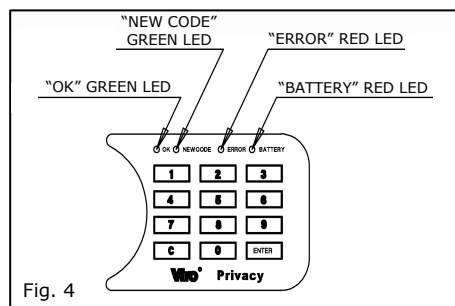

Fig. 4
**ATTENTION:** Use only AA LR6 type 1,5V alkaline batteries. All 4 batteries of the same safe must be replaced at once. Do not use together new and old batteries or batteries of a different type and quality. **When the batteries are almost empty each time you open there will be a blink of the "BATTERY" red LED (see Fig. 4): replace then the batteries.**
1. **With door opened** (retracted lockbolts) press and release "C" key on the keypad: "NEW CODE" green LED will light up (see Fig. 4).